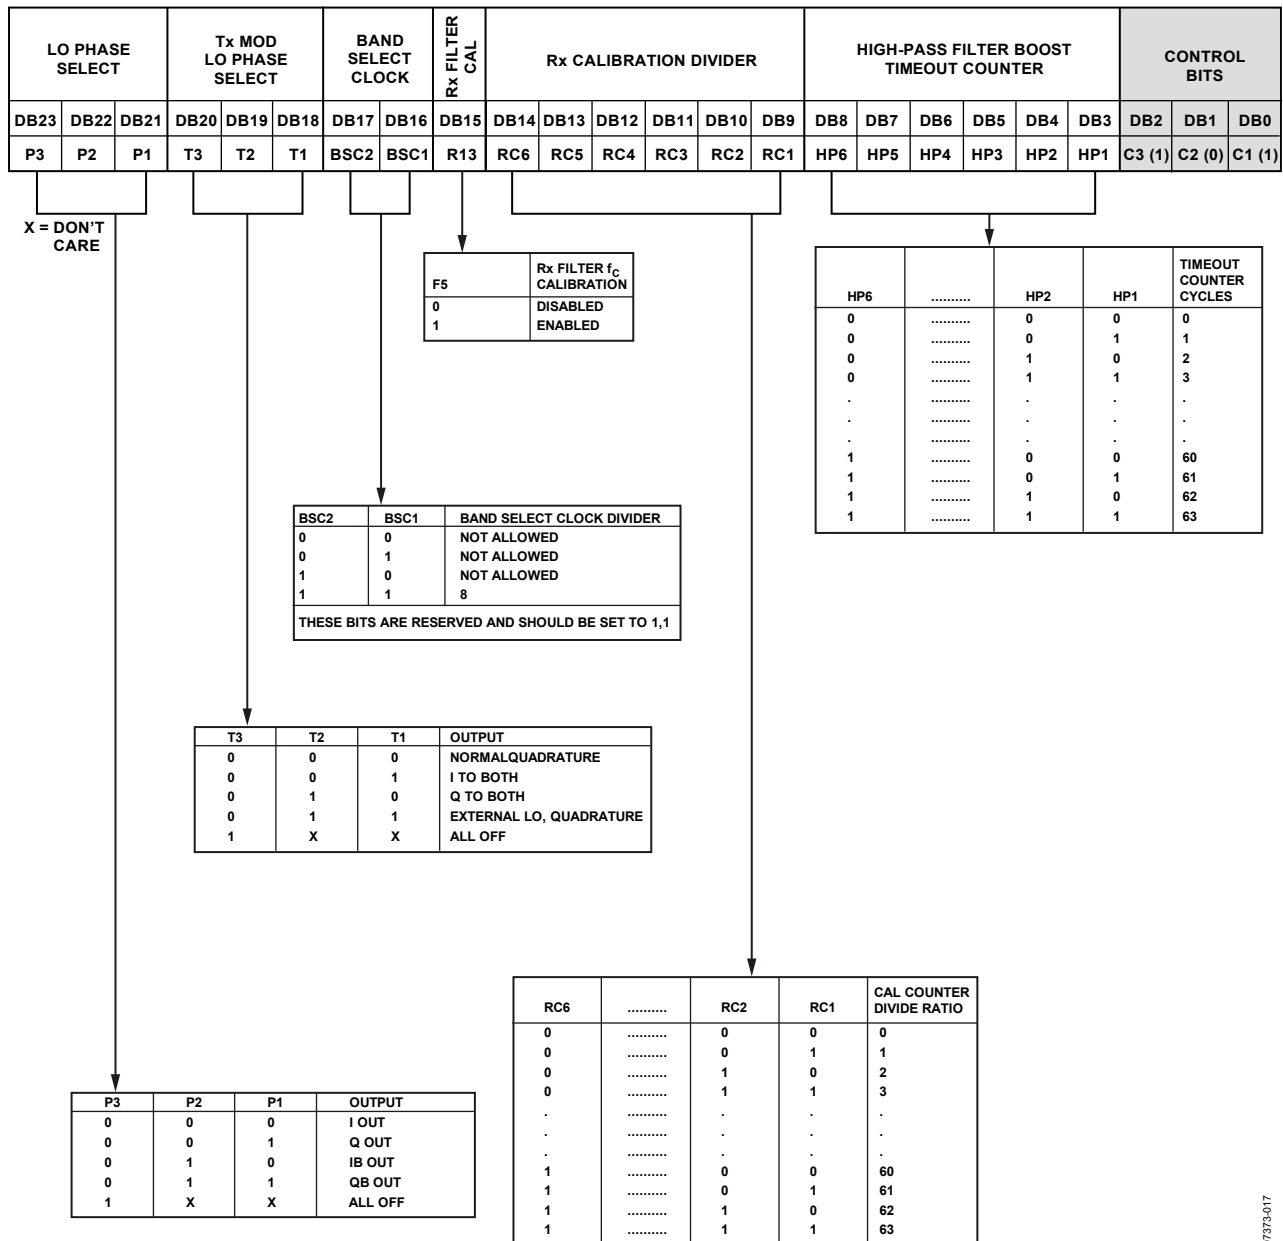

Figure 24. Rx Calibration Latch
With (C3, C2, C1) = (1, 0, 1), the Rx calibration latch is programmed. Figure 24 shows the input data format for programming the Rx calibration latch.
Bit P3, Bit P2, and Bit P1 set the phase of the LO output to the demodulator. This enables the user to select the phase delay of the Rx LO signal to the demodulator in 90° steps. See the truth table in Figure 24. The Rx LO output can be disabled if desired.
Bit T3, Bit T2, and Bit T1 set the input modulation of the VCO. Normal quadrature to each mixer can be replaced by choosing one LO phase to both mixers if desired. The normal (I) or quadrature (Q) phase can be chosen. See the truth table in Figure 24.